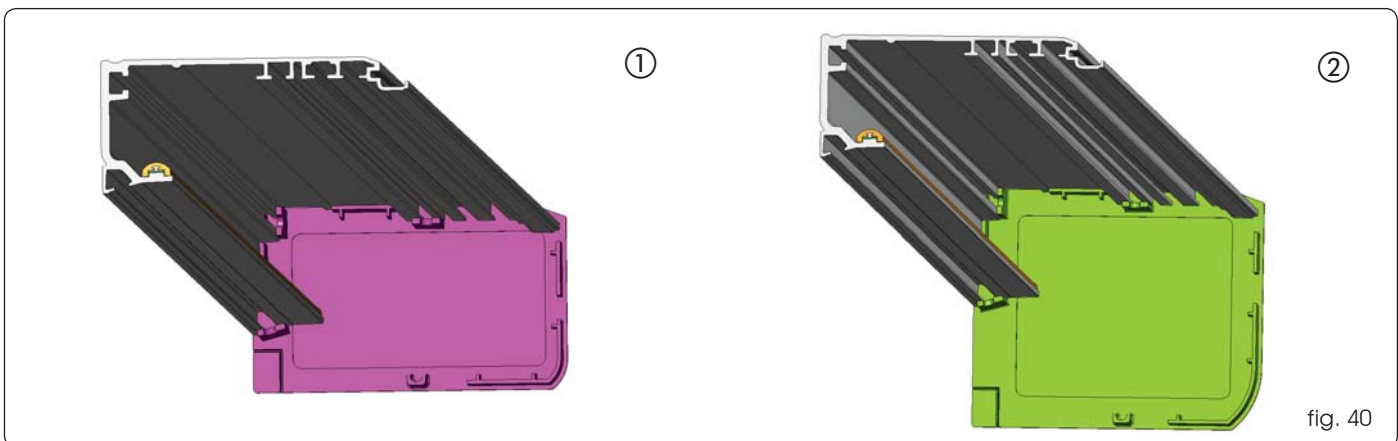

fig. 40
Fit the side panels as shown in fig. 40 ref. 1
Fit the side panels as shown in fig. 40 ref. 2